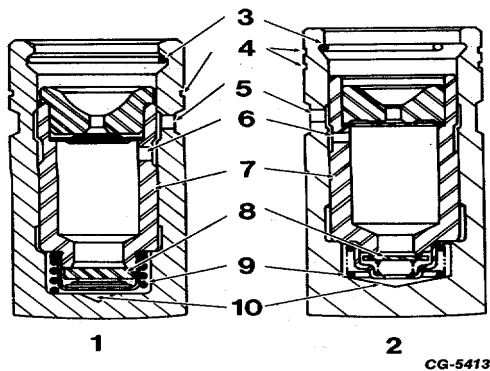

Fig. 120. Sectional View of Hydraulic Tappets Showing Types "A" and "B"
Optional sources of hydraulic valve lifters have been established. When disassembling the lifters, do not mix the components of any lifter. Figure 120, illustrates the difference in construction between types "A" and "B." Generally, the service instructions are the same for all types of hydraulic lifters. The push rods are common for all types of lifters.
- F. Reassemble all parts in proper sequence Figure 120.